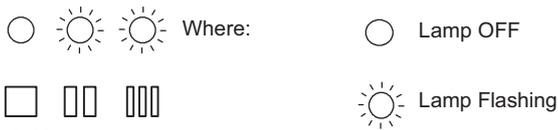
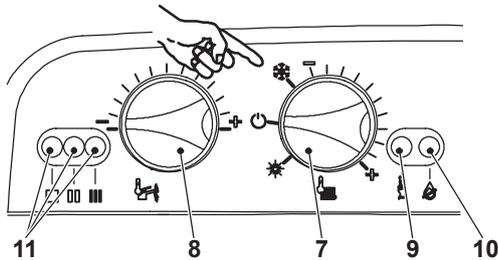

Figure 9.13
Figure 9.14
- Position the function selector 7 as in Figure 9.14 and disconnect the C.h. temperature probe. Lamps 11 give the indication as in Figure 9.13.
- Keep pressed the reset button 9 for about 10 seconds (Figure 9.14) until the lock-out signal lamp 10 blinks.